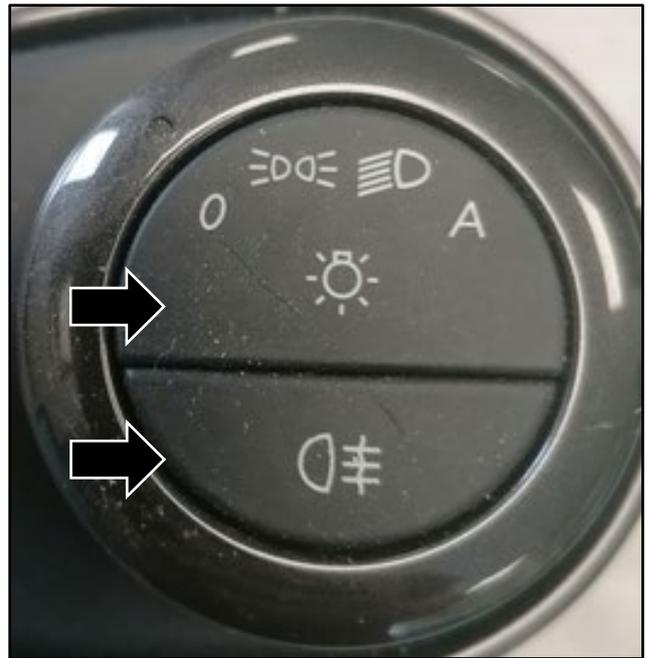

Figure 10
7. Install the rotary light switch, toggle switch and light indicator panel to the master light switch unit (refer to Figure 10).